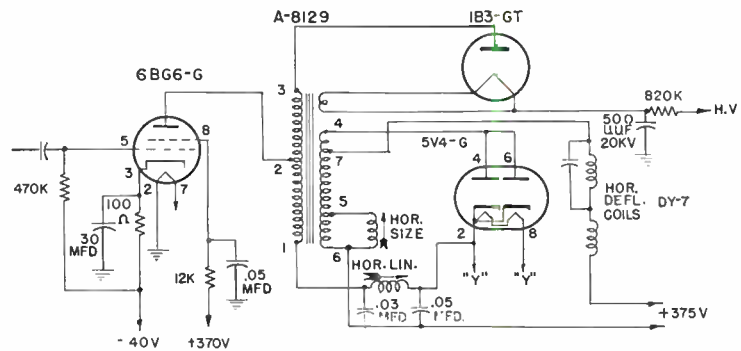

Fig. 7. Horizontal output circuit showing the changes which were necessary to sweep the 14CP4 picture tube.
- The high voltage compartment shield was removed, and the original horizontal sweep transformer was replaced with a Stancor A-8129 and wired as shown in Fig. 7. Before installing the new transformer, the horizontal linearity coil and bracket were removed from its position on the front apron of the chassis and remounted on the side using one of the shield mounting holes. The adjusting screw should not extend below the bottom of the chassis.